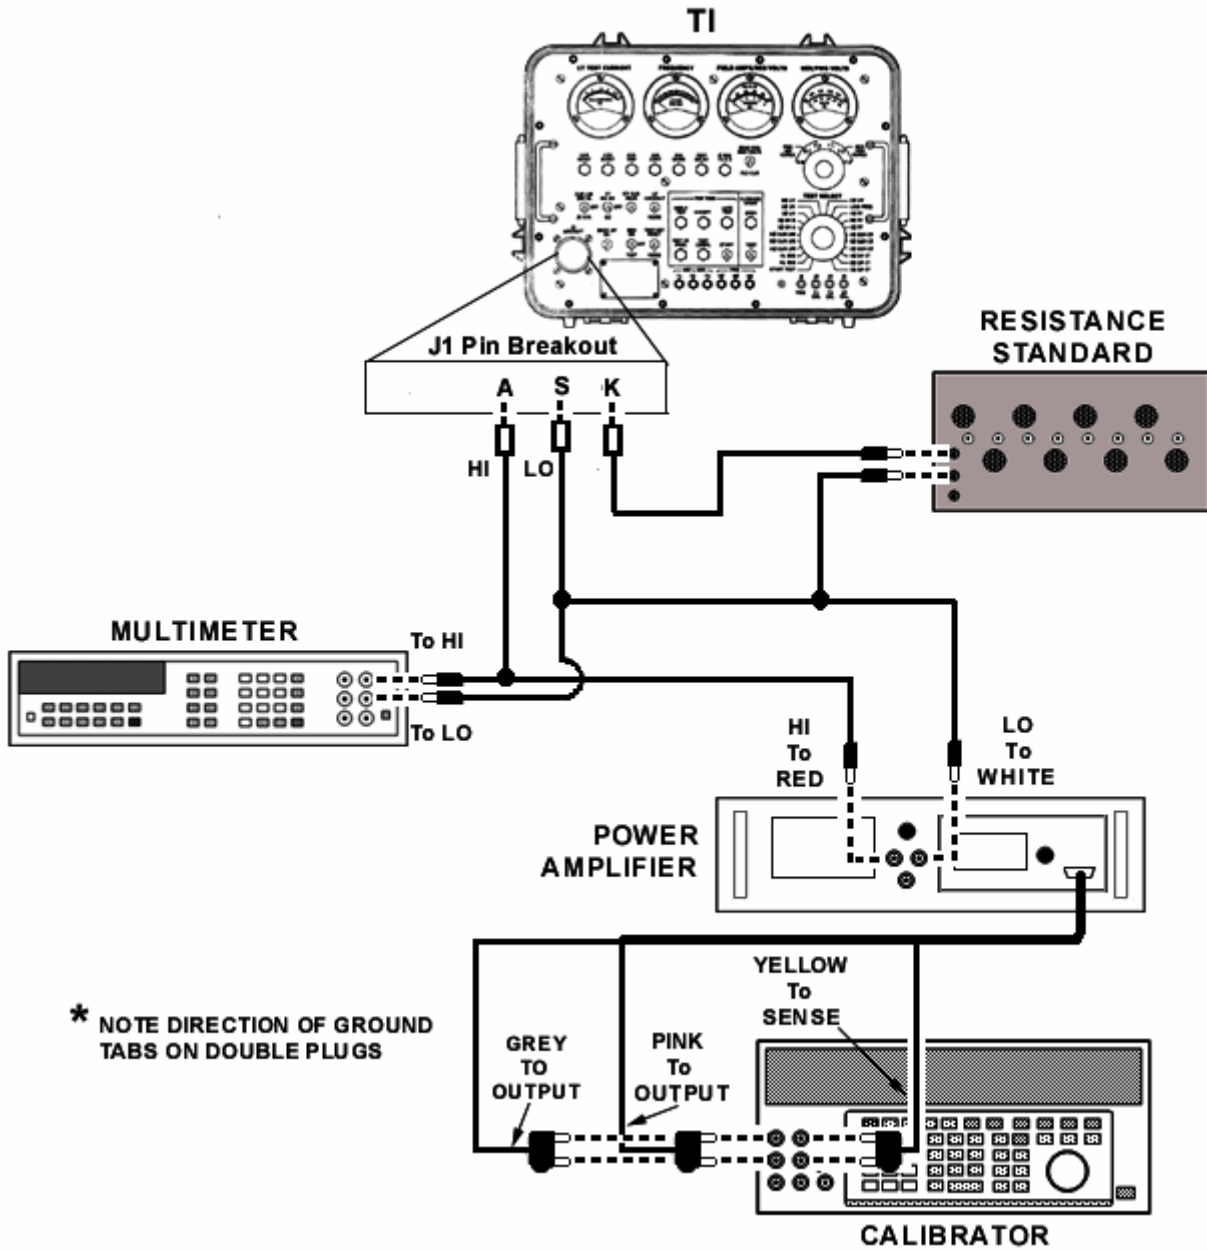

Figure 2. CT TEST CURRENT - equipment setup.
- (1) Connect equipment as shown in figure 2.
- (2) Position TI controls as listed in (a) through (d) below: